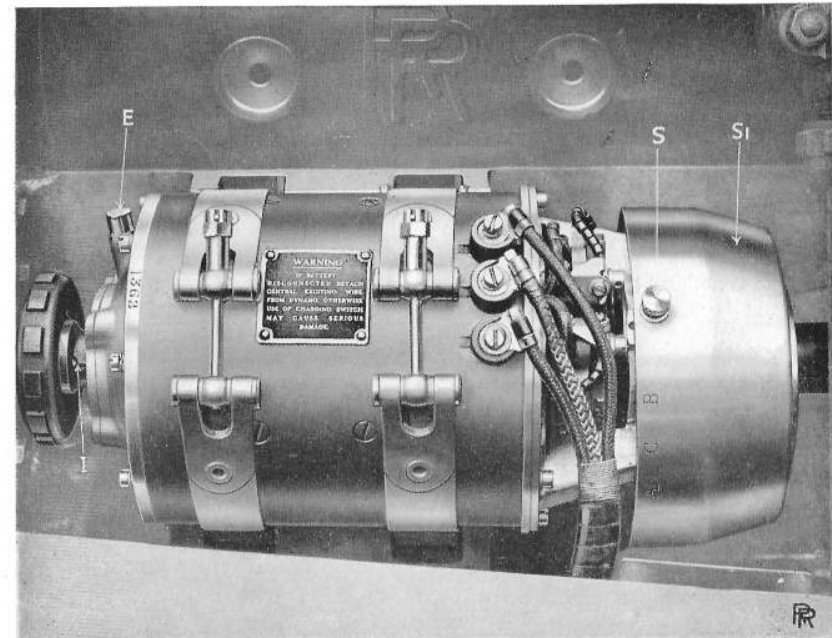

FIG. 6. DYNAMO.
**Dynamo.** The dynamo, which is shown in position in Fig. 6, is positively driven from the engine (in line with the magneto) at one-and-a-half times engine speed. It is of the single field winding and third brush type, which, when connected to a battery, is so controlled by armature flux distortion as to cause it to generate a
form of a small oil cup, one being shown at **E** (Fig. 6) and the other at **S**, the latter being normally within the cover **SI**.
When it is necessary to run the engine with the dynamo end cover, **SI**, removed, the latter may be held clear of the magneto drive shaft by turning it until a hole is found, by which it may be secured on the lubricator by means of the lubricator cap **S**, as shown in Fig. 6.